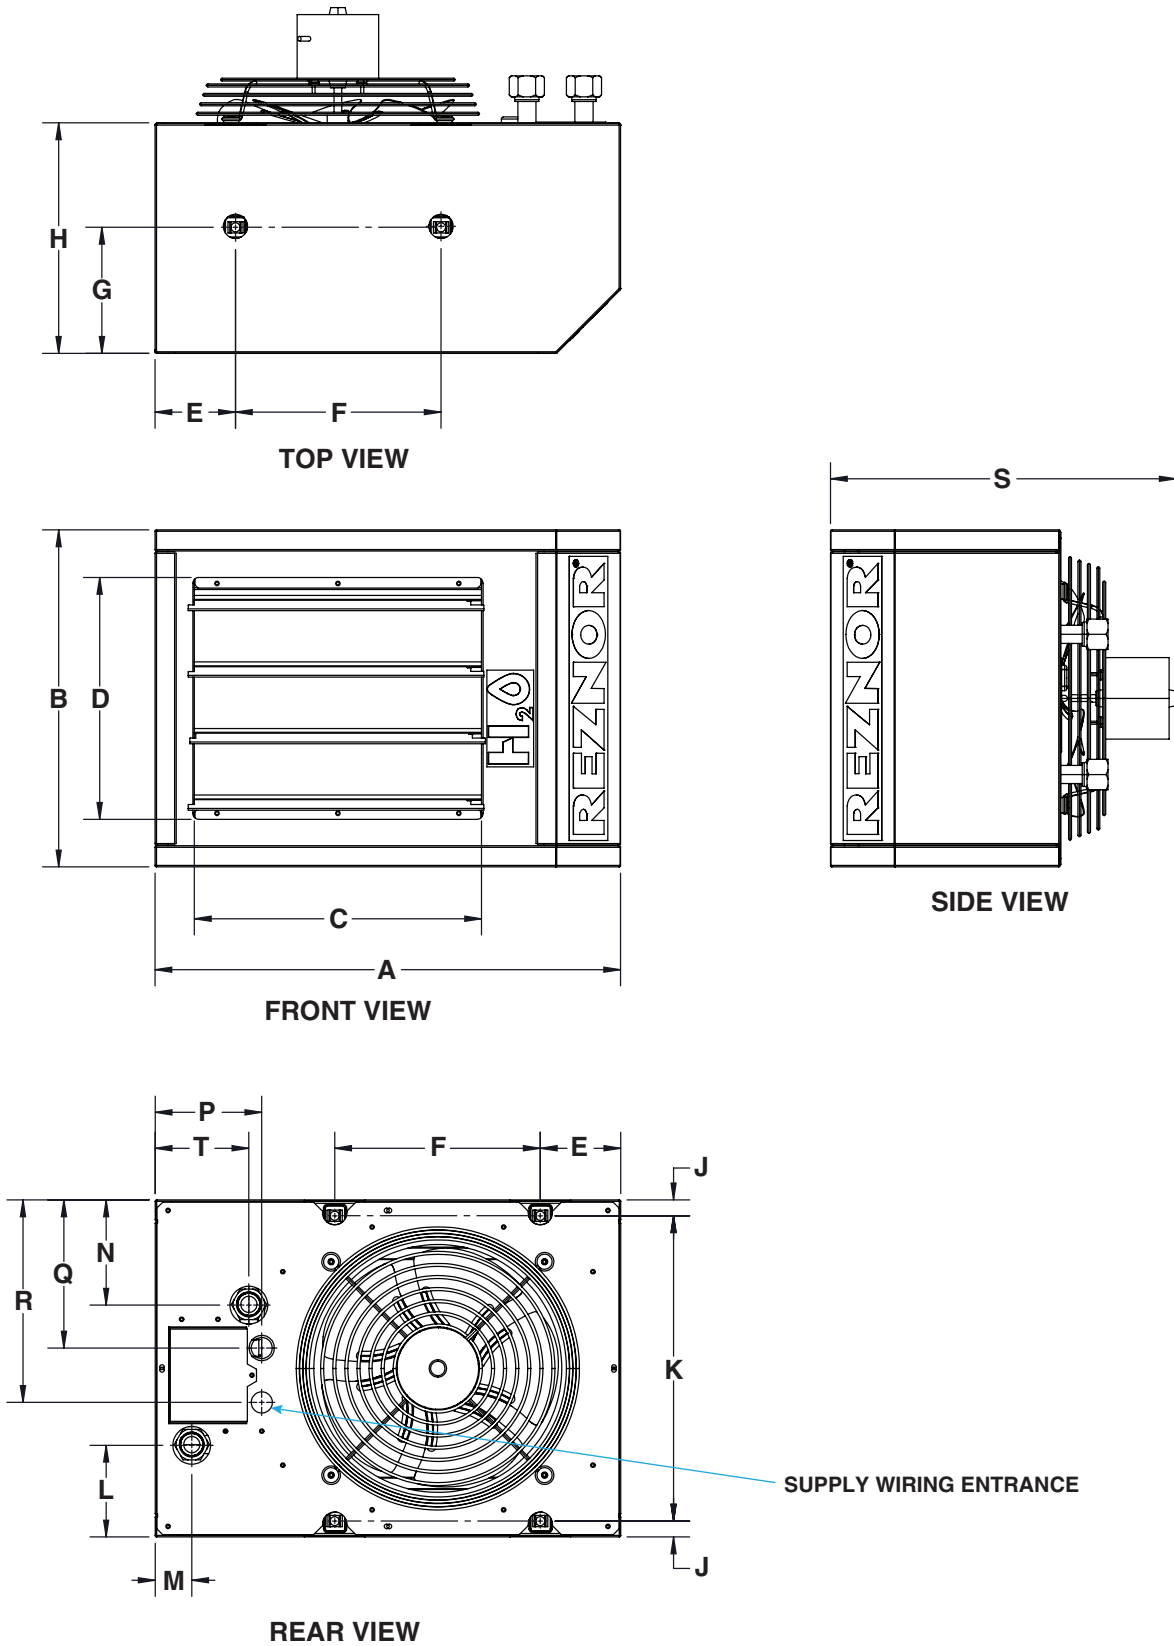

Figure 1. Dimensions (Refer to Table 4)
*See Figure 1.
Route the 115V supply wiring and any 115V control wiring through the wiring entrance shown in Figure 1 and make connections inside the electrical compartment. Be sure to close and secure the electrical compartment door.